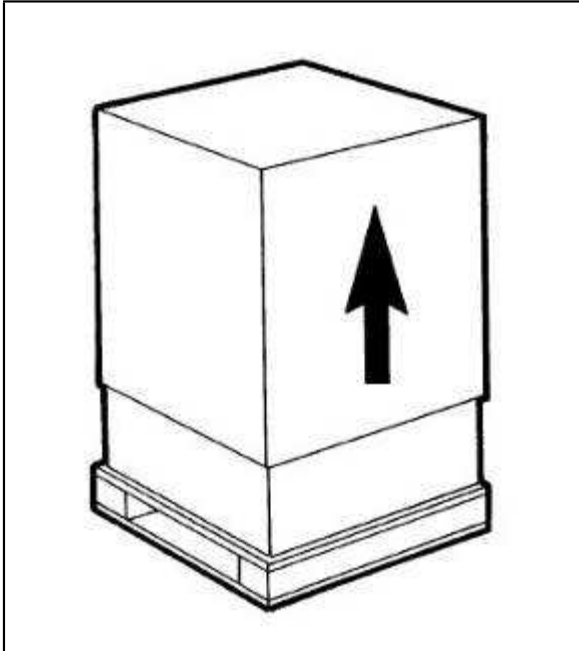

Рис. 1
- a) Remove the packing (Рис.1) and preserve it in order to reuse for winter storage.